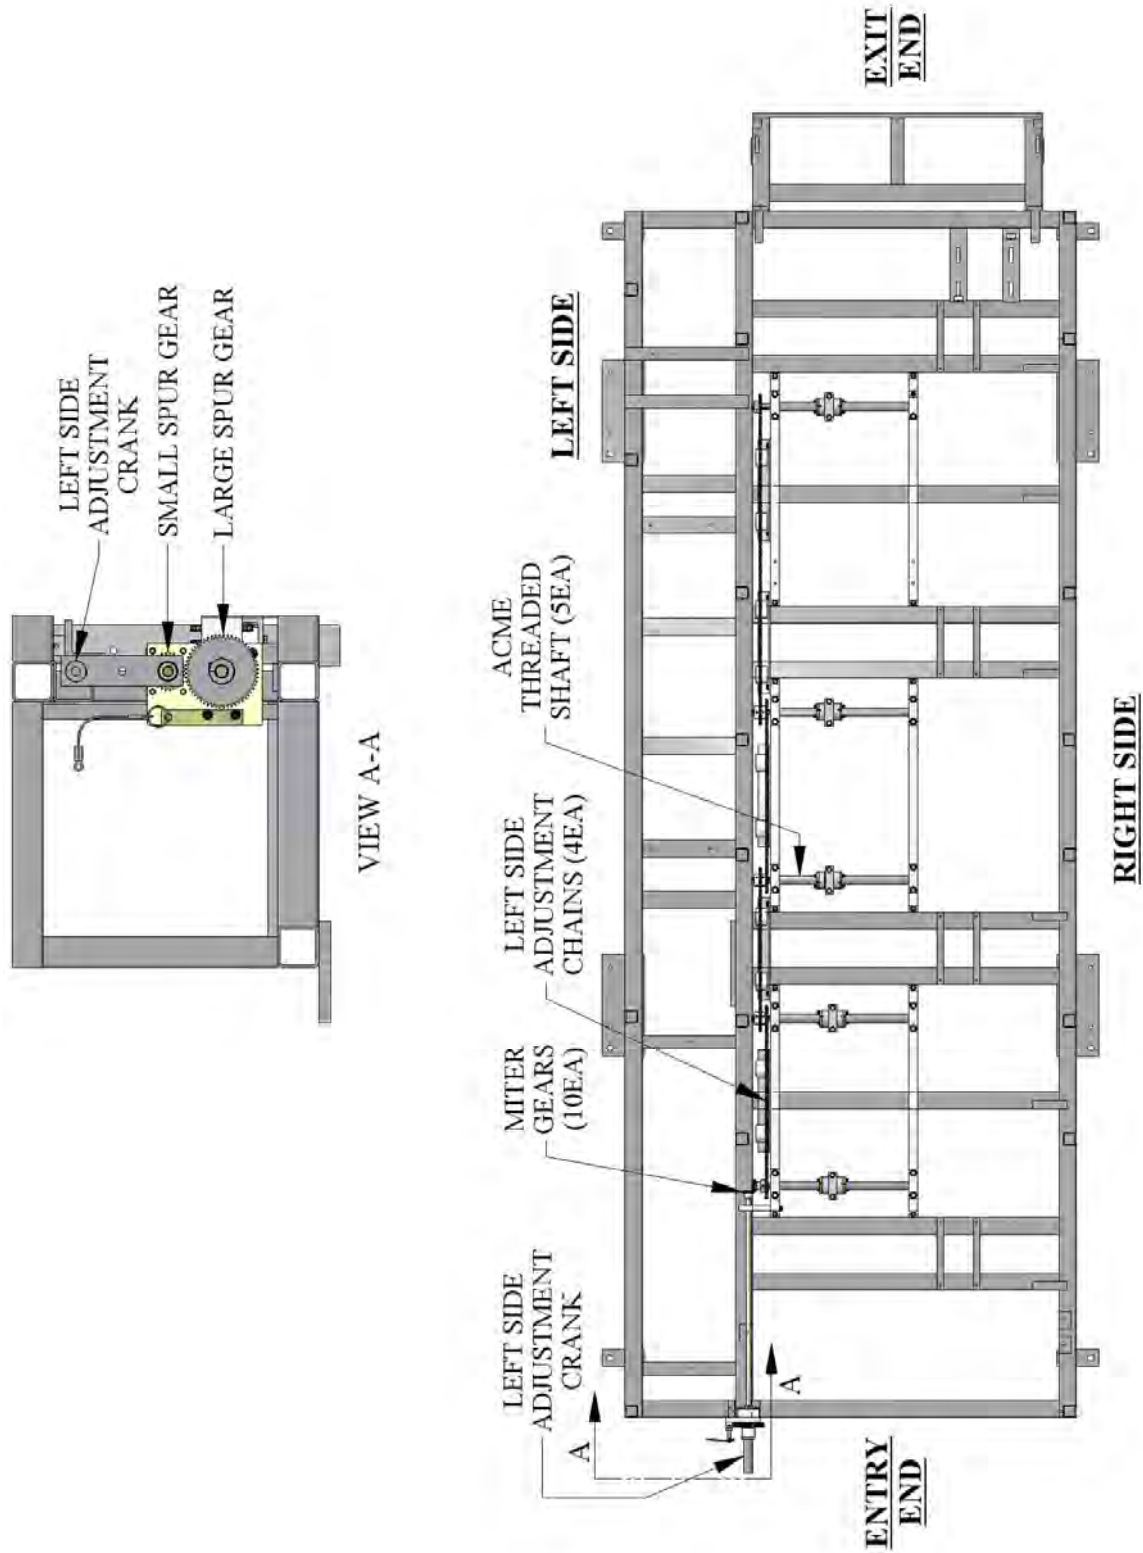

Figure 4: Acme Shafts and Left Side Adjustment
9. Lubricate 5 Acme Shafts (Figure 4 on page 8) with Spray Lube as needed.
10. Lubricate Miter-Gears (Figure 4 on page 8) on ends of Acme Shafts with Spray Lube as needed.